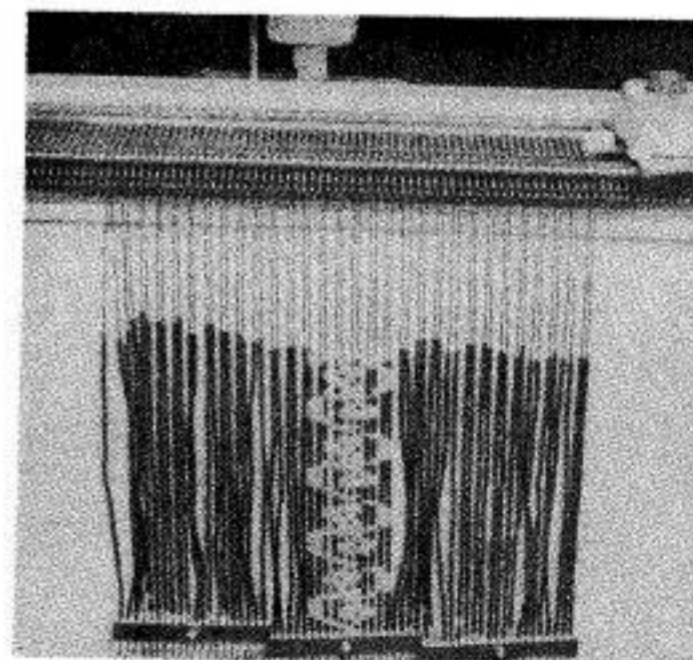

Fig. 79
- (c) With Carriage on the right and the leading Return Cam Lever at 2 bring forward ALL the working needles into position (E). Knit one row by moving the Carriage from right to left. (Fig.79)